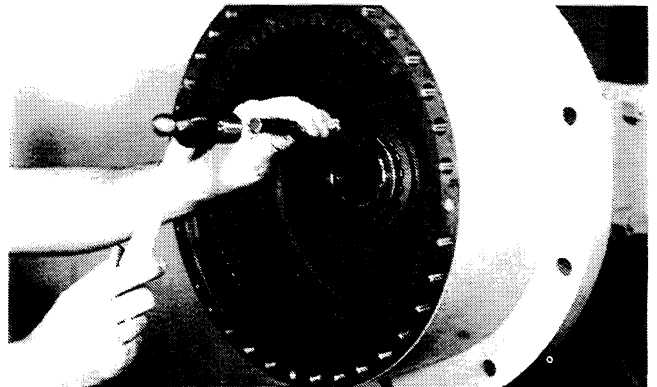

Figure 4:
6. Straighten the tangs of the nut lock as shown (Fig. 4).